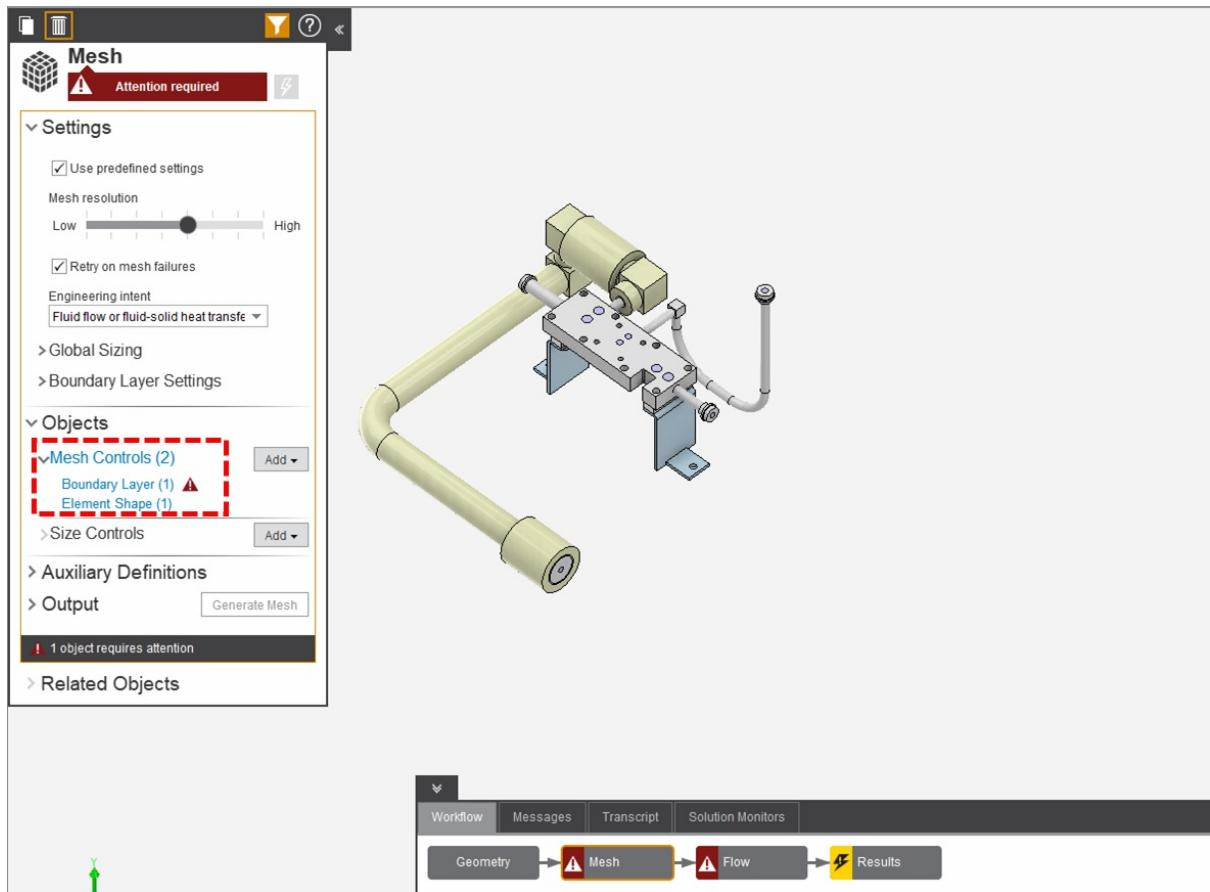

Figure 3.2:
1. The next step is to select the Mesh bubble and to define the boundary layer of fluid volume(s) for our problem. After selecting the Mesh bubble, press the “Mesh Controls” link shown in Fig. 3.2. (Leave all the other settings at the default)